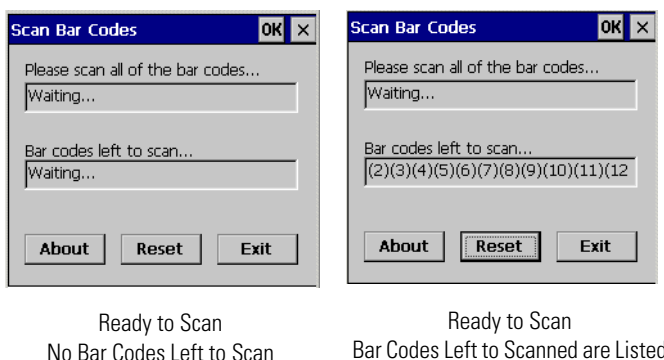

Figure 10-3. Rapid Deployment Window
- b. Multi-part linear bar codes (1-D bar codes) can require scanning several bar codes. Bar codes can be scanned in any order. The text box under *Bar codes left to scan...* shows the remaining bar codes to scan (see Figure 10-3, Bar codes left to scan).